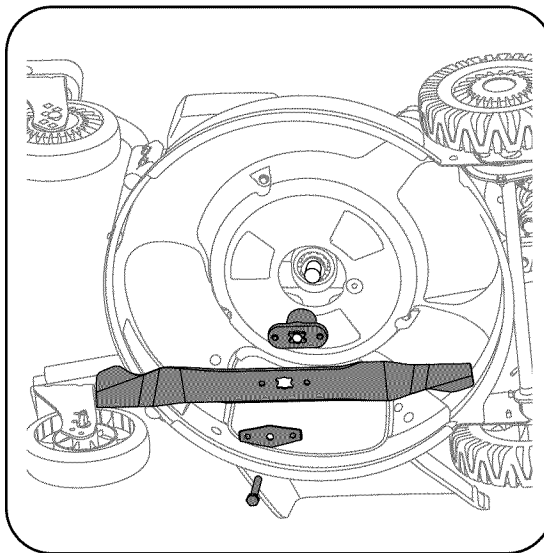

Figure 14
2. Remove bolt, blade bell support, blade, and blade adapter from the engine crankshaft. See Figure 14.